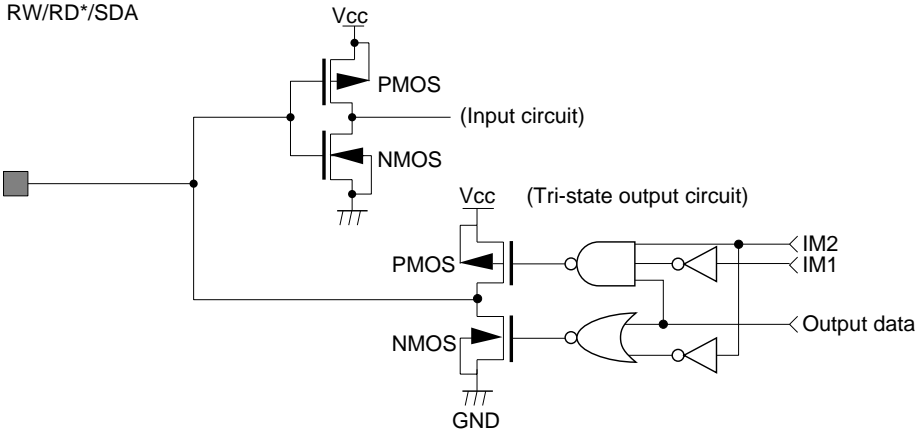

Figure 60 I/O Pin Configuration
2. The following three circuits are I/O pin configurations (figure 60).